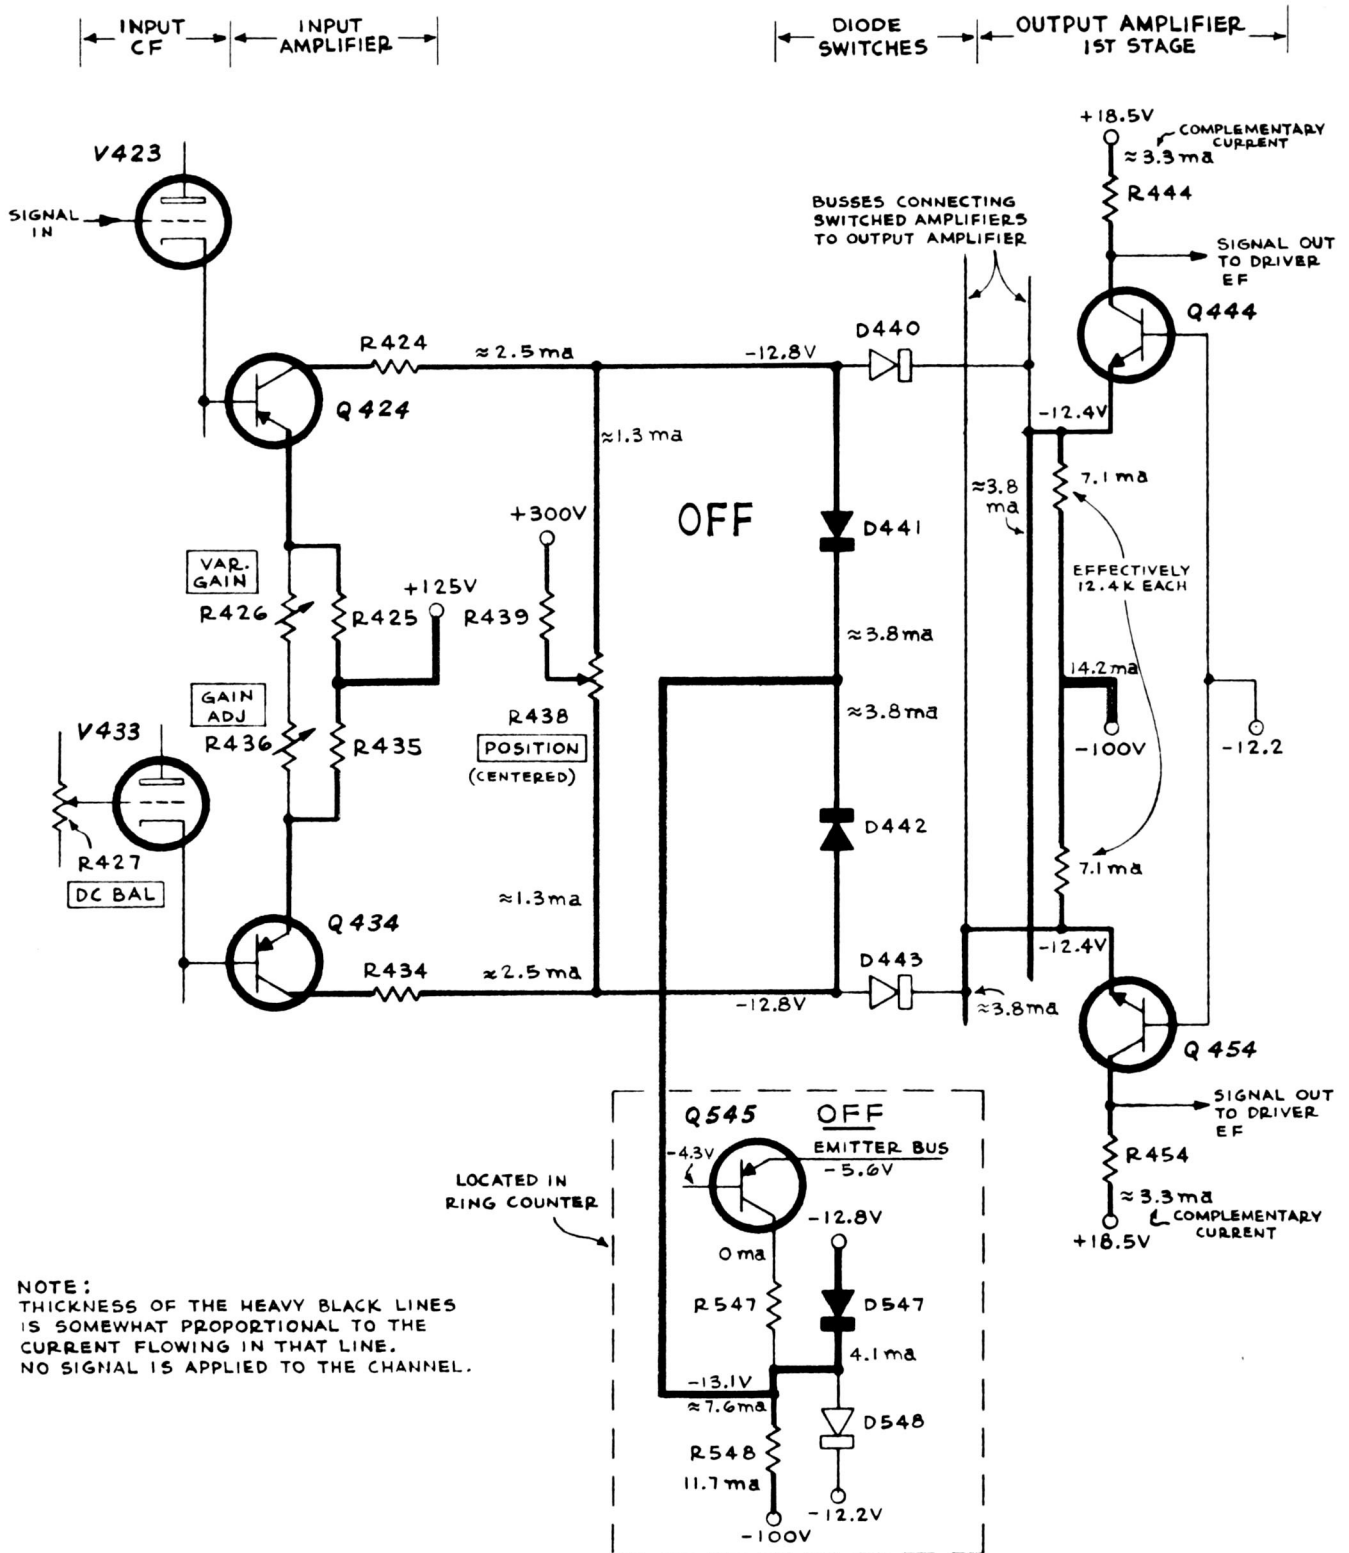
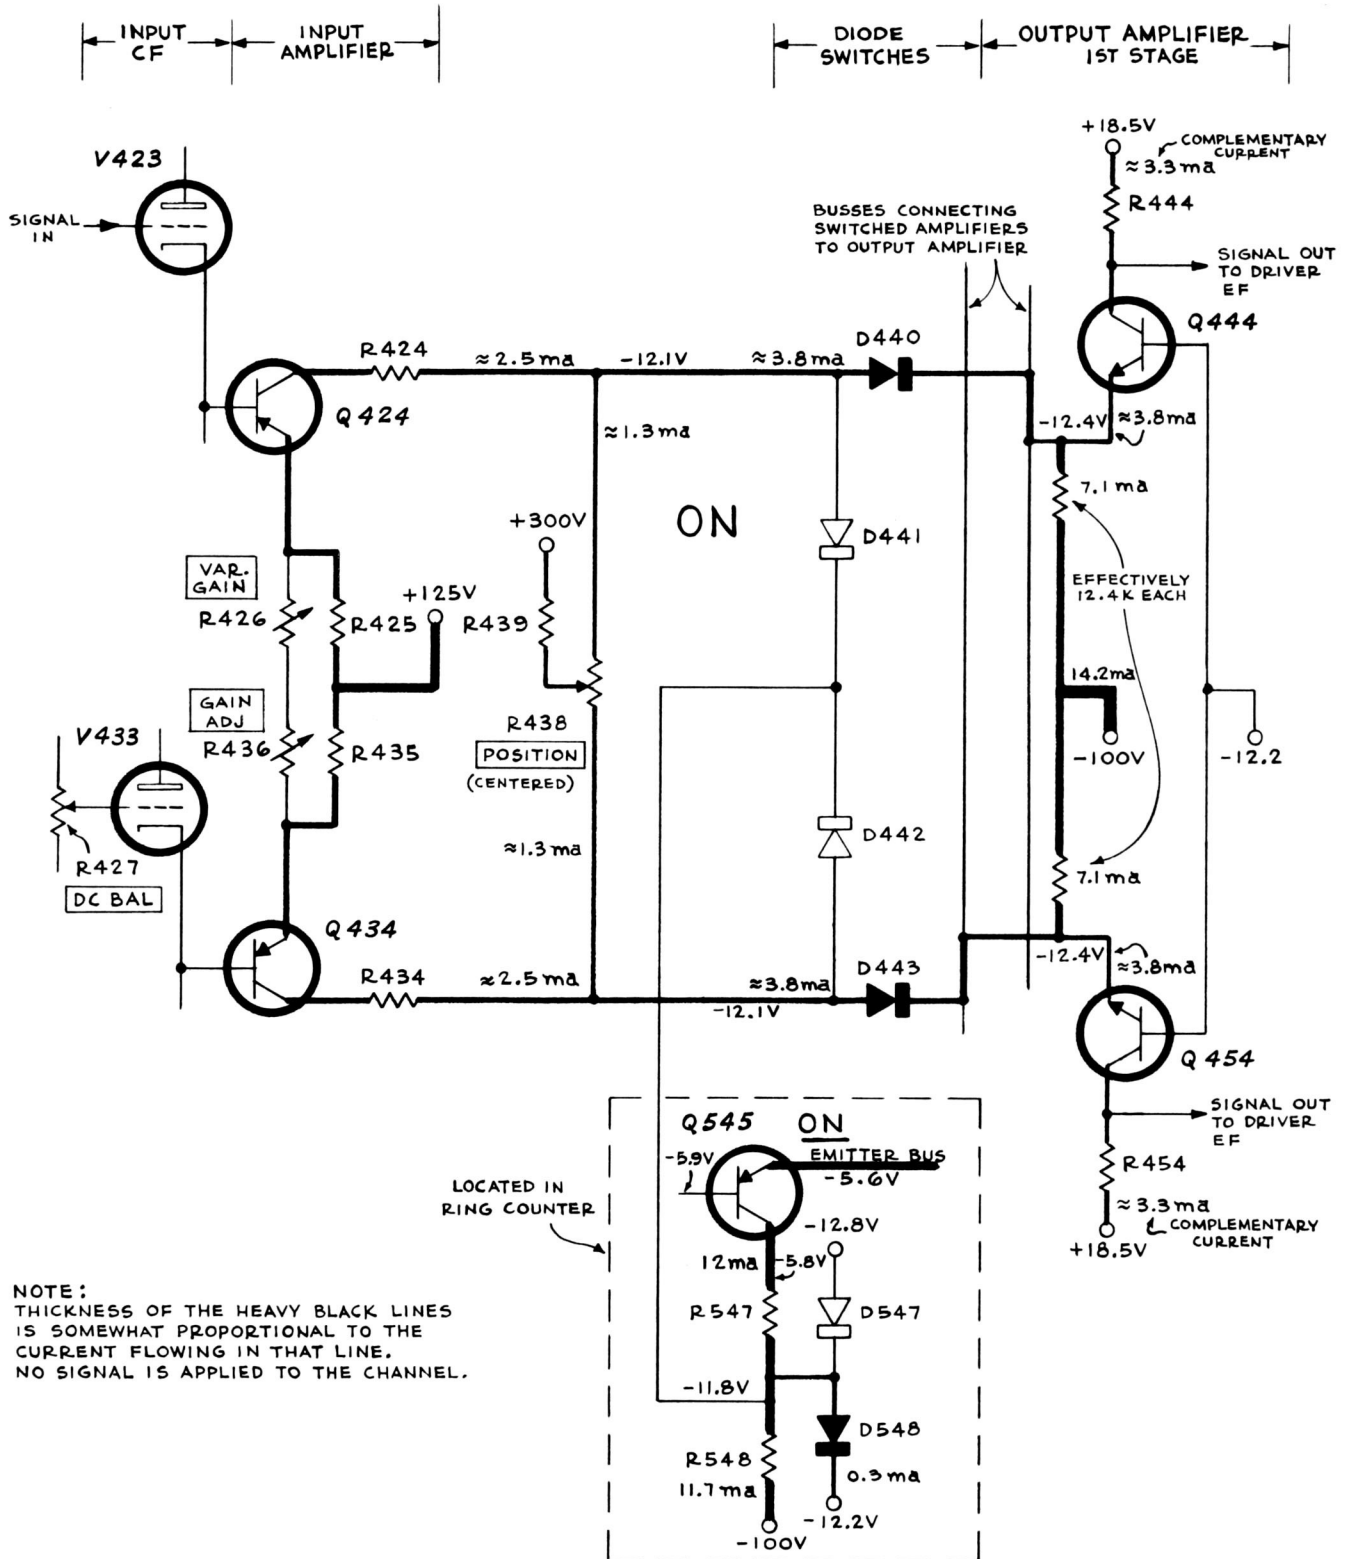

Fig. 4-2. Simplified circuit diagram showing the dc current paths when channel 1 is turned OFF.
Fig. 4-3. Same as Fig. 4-2 except channel 1 is turned ON and the resulting current paths are shown.
Assume that channel 1 is turned off (MODE switch is set to OFF) and the POSITION control is centered. With channel 1 turned off, Q545 in the Ring Counter stage is not conducting (see Fig. 4-2). The  $-13.1$ -volt level at the cathodes of shunt diodes D441 and D442 is more negative than their anodes ( $-12.8$  volts). As a result, D441 and D442 are forward biased and return channel 1 Input Amplifier and positioning currents through R548 to  $-100$  volts. With the shunt diodes forward biased, series diodes D440 and D443 are reverse biased. The reverse-biased series diodes turn the channel off; that is they effectively disconnect channel 1 from the Output Amplifier.
If channel 1 only is turned on (MODE switch is set to NORM. or INV.), Q545 in the Ring Counter conducts. The voltage level at the junction of the shunt diodes reverse biases the shunt diodes permitting the series diodes to be forward biased. As a result the Input Amplifier and positioning currents are applied through the series diodes and connecting busses to join with the current from the first stage of the Output Amplifier. The dc-current paths are shown in Fig. 4-3.
**Output Amplifier 1st Stage Q444/Q454.** The bases of Q444 and Q454 are connected directly to  $-12.2$  volts. These transistors operate in a common-base configuration. The voltage at their emitters is approximately  $-12.4$  volts. Emitter resistors R447, R448, R457, R458 and the POSITION RANGE adjustment R449 combined together give each transistor an effective emitter resistor of  $12.4$  k referred to  $-100$  volts (see Fig. 4-2 and 4-3). With the emitters at  $-12.4$  volts about  $7.1$  ma flows in each of the  $12.4$ -k effective emitter
resistors. This current comes from two sources which add together at the Q444/Q454 emitters. Under no-signal conditions 3.8 ma comes through each connecting bus from the series diodes of the channel then connected; 3.3 ma complementary current comes through each transistor (Q444 and Q454) to make up 7.1-ma total demanded by the 12.4-k effective emitter resistors (see Fig. 4-3).
Meanwhile, channels, 2, 3 and 4 are in a turned-off state because transistors Q555, Q565 and Q575 in the Ring Counter are cut off. These transistors, being cut off, do not provide current to their respective R558, R568 and R578 resistors. Instead, about 7.6 ma of the 11.7-ma required current through each one of these resistors is supplied from their respective Input Amplifier stages through their respective D441/D442 shunt diodes. (Fig. 4-2 shows the "OFF" condition that can be applied to channels 2, 3 and 4 described herein.) The additional 4.1-ma currents (11.7 ma minus 7.6 ma) come through D566 and diodes D557, D567 and D577 respectively. These diodes keep R557/R558, R567/R568 and R577/R578 junctions from going any further negative than about  $-13.1$  volts.
The  $-13.1$  volts, applied to the cathodes of shunt diodes D441 and D442 in the turned-off channels, is the voltage which forward biases these shunt diodes. As a result, the currents from the Input Amplifiers of the turned-off channels flow through their respective D441/D442 shunt diodes rather than through their D440/D443 series diodes. With  $-12.8$  volts at the series-diode anodes and  $-12.4$  volts at their cathodes (using Fig. 4-2 as a study guide), the series diodes are reverse biased. Thus, channels 2, 3 and 4 are effectively disconnected from the Output Amplifier 1st Stage. Channel 1 remains turned on for single-trace operation as assumed at the start of this discussion.
switch contacts to the base of Q555. When the trigger pulse at the emitter bus relaxes, the emitter bus voltage rises towards its quiescent level. Since the base of Q555 is the most negative of the Ring Counter transistor bases, Q555 is the first and only transistor to be forward biased. Regenerative action via the collector-to-base resistor matrices assures that all of the other Ring Counter transistors remain off. The result of switching Ring Counter conduction from Q545 to Q555 is to disconnect channel 1 from the Output Amplifier and to connect channel 2 in its place. (At this point let Fig. 4-2 represent channels 1, 3 and 4 in the OFF condition and let Fig. 4-3 represent channel 2 in the ON condition.)